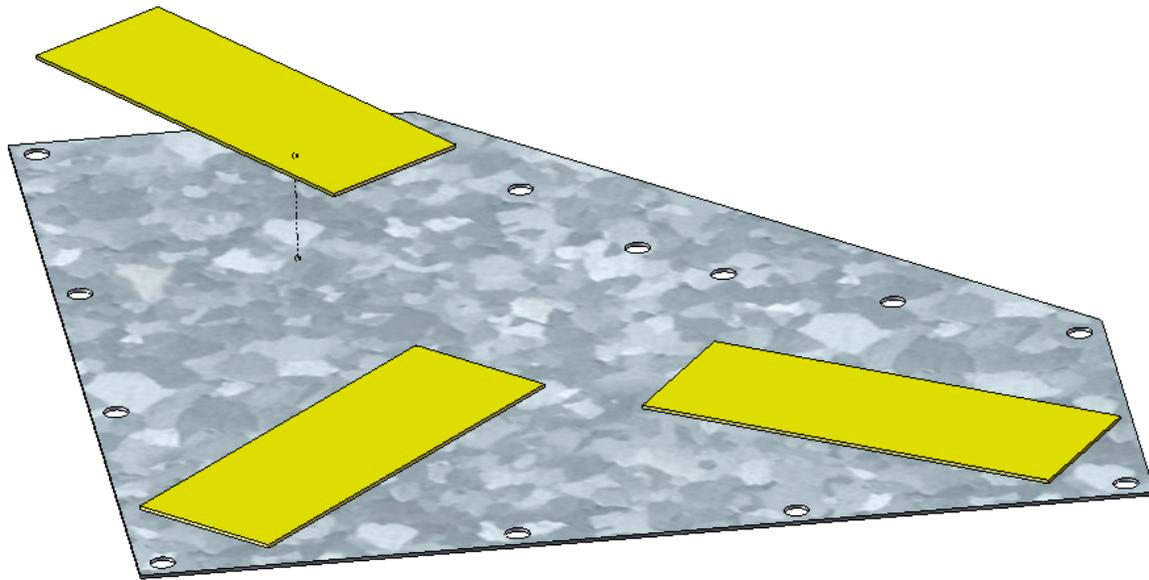

Figure 3-2: MFC orientation on scale model cover
- 1) Determine the positioning of the MFC actuators. For the mentioned project, the MFCs are oriented in the direction of the propagated vibrations, i.e. towards the center nodal point. Please refer to Figure 3-2 and A1 for clarification.
- 1) If assembling scale model with MFC patch actuators, follow section 3.2.1 to apply MFCs prior to proceeding to the next step. See Figure 3-2.